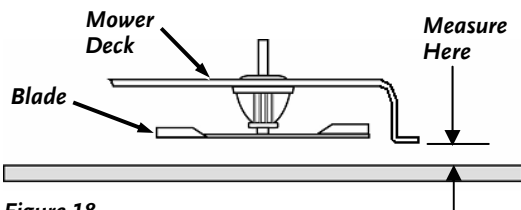

Figure 18
1. Measure the distance from the ground to the bottom of the Deck Edge Flange at the front and rear of the Deck (Figure 18).
4. Measure the distance from the ground to the bottom of the Deck Edge Flange on the left and right sides of the Deck (**Figure 18, on previous page**).